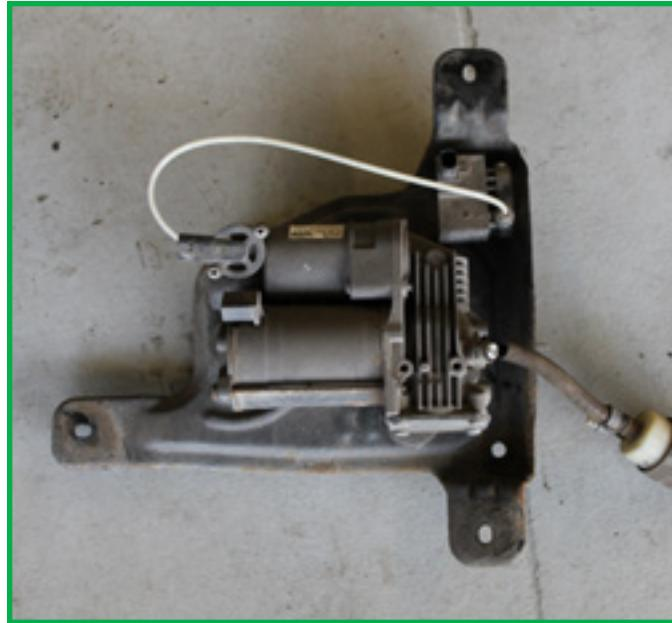

FIGURE 7
8. Remove the compressor assembly from the vehicle. (Figure 7)